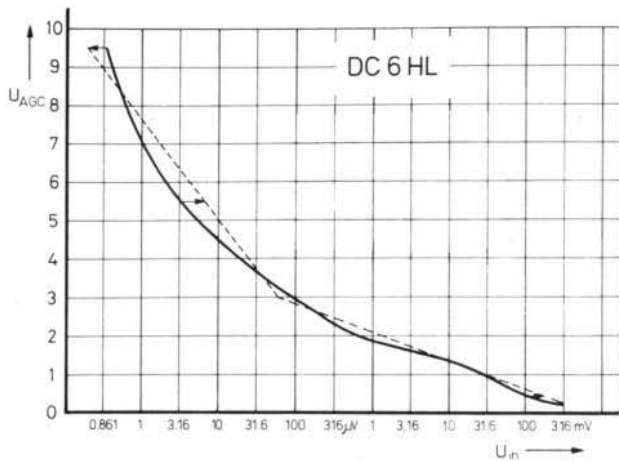

Fig. 9:
- d) For alignment of the PIN-control threshold, connect a signal generator with an output of  $1 \mu\text{V}$  to the RF-Rx input (Pt03). Adjust R52 on the AF/IF-board so that a PIN-control voltage of 7 V results. (Figure 9). If a signal generator is not available, R52 should be adjusted without signal so that the PIN-control voltage just starts to fall from the maximum value (approx. 9.5 V).